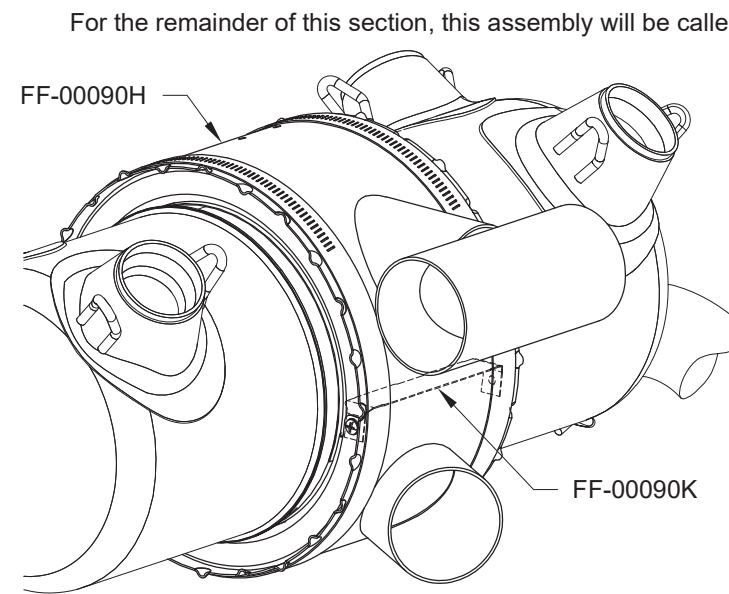

FIGURE 3: FF-00090H INSTALLATION
Step 4: Gently spread the FF-00090H, then slide it along its axis, over and onto the four FF-00090B. Align the FF-00090H as shown in Figure 3, with the FF-00090K between the inlet and outlet tubes of the FF-00090H